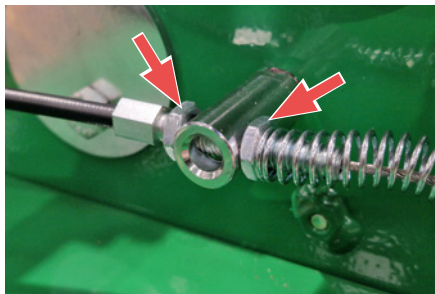
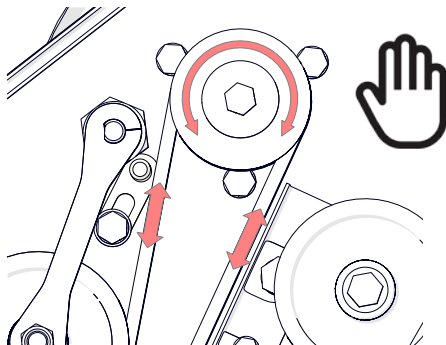

Fig. 16F - Tension by adjusting the nuts accordingly.
Fig. 16G - Check correct tension by moving the pulley by hand.
- iv. Engage the cutting lever - the tensioner pulley will make contact with the belts and put them under tension. Adjust the two nuts of the cable to achieve more or less tension on the belts (Fig. 16F). Turn the top pulley (by hand), the belts should move freely and turn the lower pulley accordingly (Fig. 16G). When the cutting lever is disengaged, the tensioner pulley will 'rest' on the belts and not provide any form of firm pressure (turning of the pulley does not result in the belt moving).